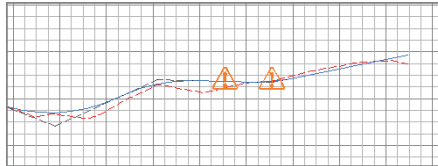

FIGURE 7.10 Warning symbols indicating design check set violations
5. Click OK to close the Profile Properties dialog box. Press Esc to clear the grips on the profile and note the two yellow shields near the right end of the profile, as shown in Figure 7.10.